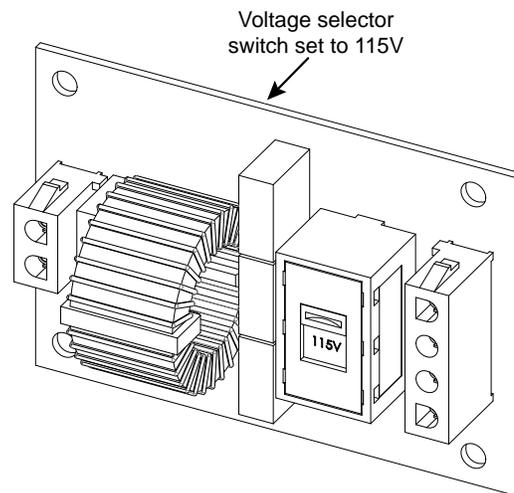

Figure 23. 208/230VAC Voltage Selector Switch
3. Toggle the voltage selector switch from 115V to 230V. Replace the High Voltage cover and secure it. See Figure 23.